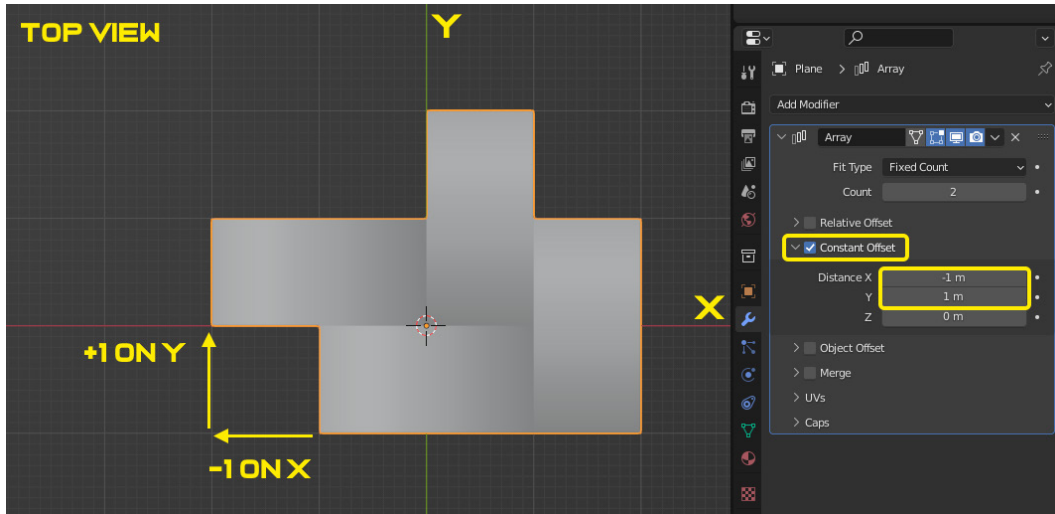

Figure 6.3 – Constant Offset
3. In the top view, add an **Array** modifier and check **Constant Offset** instead of **Relative Offset**. Set the **X** and **Y** distances so that the shape is tiled perfectly, as shown in *Figure 6.3*: